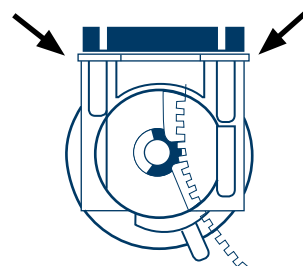

Figure 1
- Shim(s) may be placed at both the mounting holes for gradual clearance (See Figure 1).